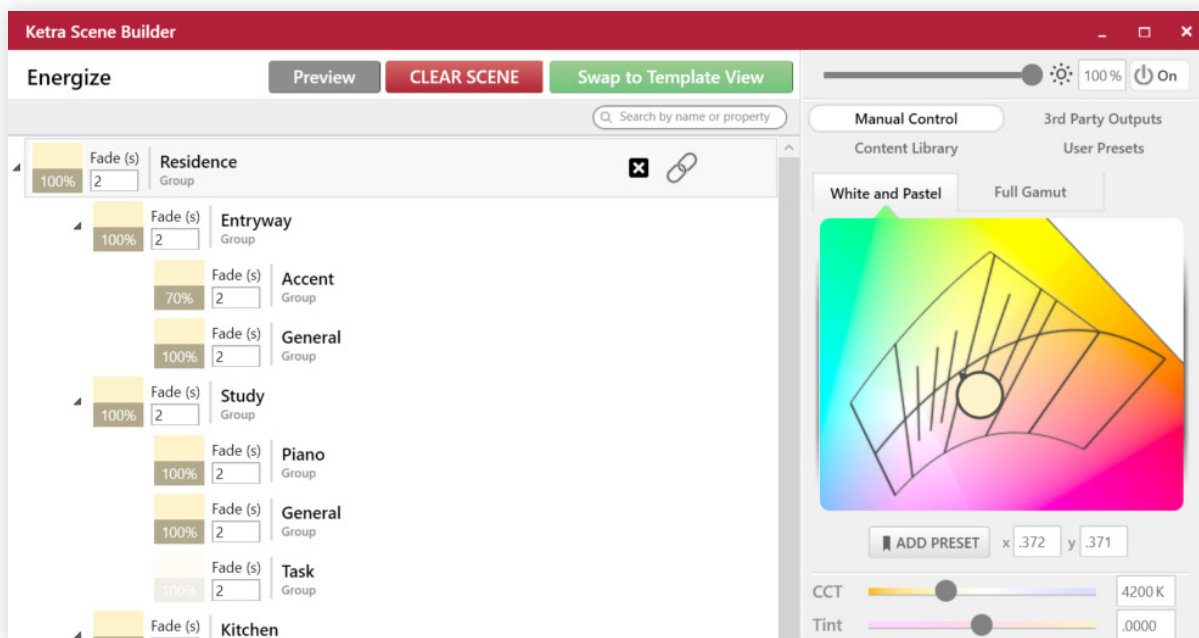

fig. 61
- 4 *Optional:* Customize the zone's scene or show. See fig. 61.